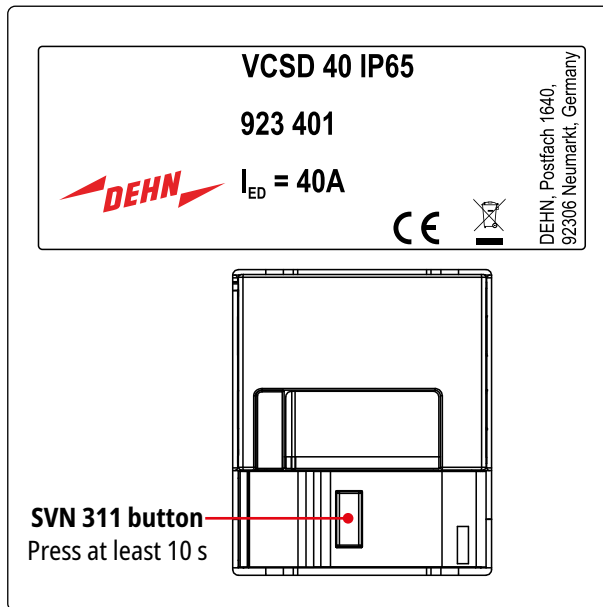

Figure 16 Discharge
- ➔ Press the **Start Selbsttest / Start self-test** button to start the test (see Fig. 16)